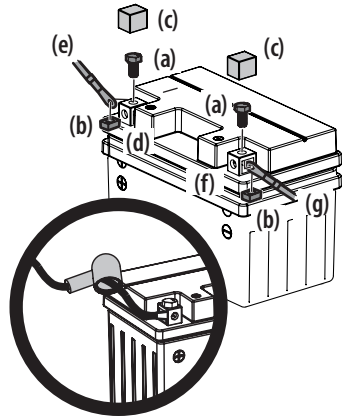

Figure 12
- Remove the factory installed hex screws (a) and square nuts (b) located either on the end of the wiring harness or in the bag with this manual. Retain the hardware for later instructions. See Figure 12.
- Remove the plastic cover (c), if present, from the positive battery terminal (d) and attach the red cable (e) to the positive battery terminal (d) with one of the hex screws (a) and square nuts (b), from Step 1. Use a Phillips screw driver. See Figure 12.
- Position the red rubber boot over the positive battery terminal to help protect it from corrosion. See inset in Figure 12.
- Remove the plastic cover (c), if present, from the negative battery terminal (f) and attach the black cable (g) to the negative battery terminal (f) with the remaining hex screw (a) and square nut (b). See Figure 12.